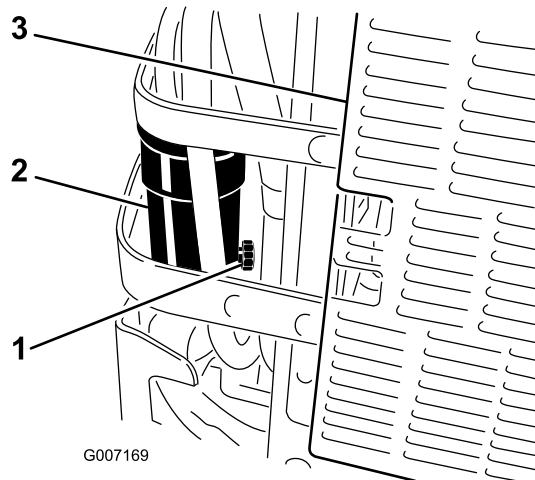

Figure 65
6. Open the drain valve on the water separator approximately 1 turn to allow water and other contaminants to drain (Figure 65).
7. Close the drain valve when only diesel fuel comes out (Figure 65).